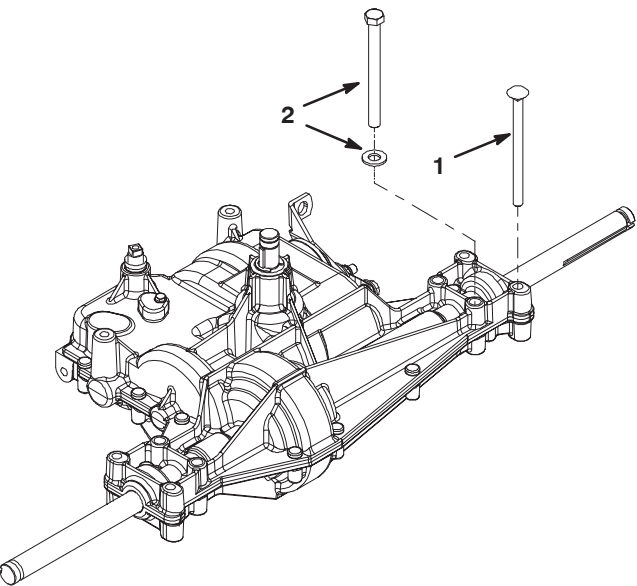

Figure 2
4. Install (2) 5/16 x 4-1/2 in. carriage bolts in place of the old bolts (Fig. 2).
5. Install a 3/8 x 4 in. capscrew and .406 x .813 washer into the rear vacant mounting hole in each end of the transaxle (Fig. 2).